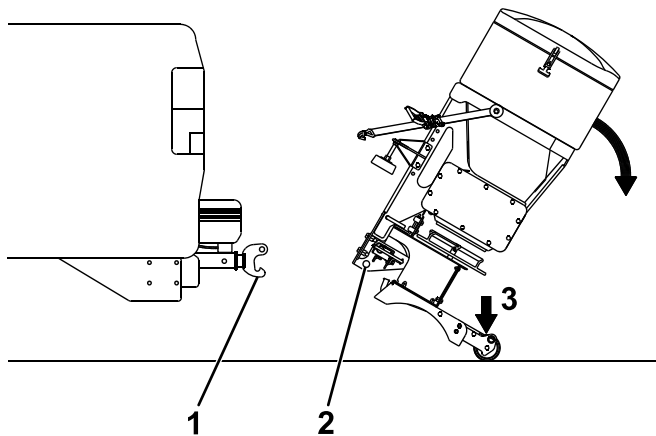

Figure 25
6. Tilt the spreader down to release the top pin of the RT3 attachment (Figure 25).
7. Grip the spreader firmly and step on the leg assembly to rotate it back until the bottom pin of the RT3 attachment clears the hook on the RT3 hitch (Figure 25).